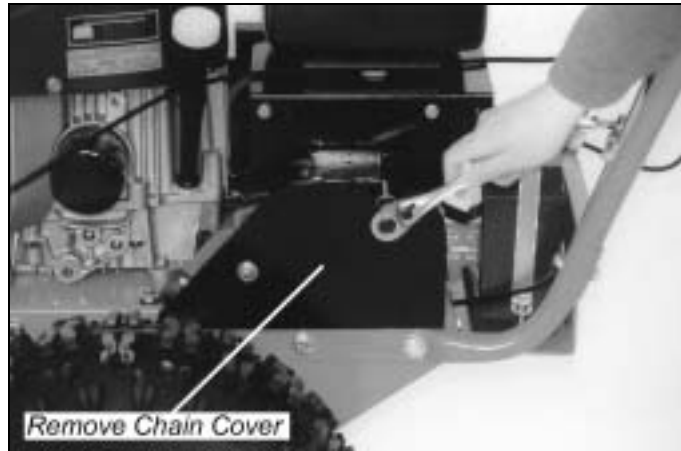

Figure 17
1. Remove the chain cover (*Figure 17*).